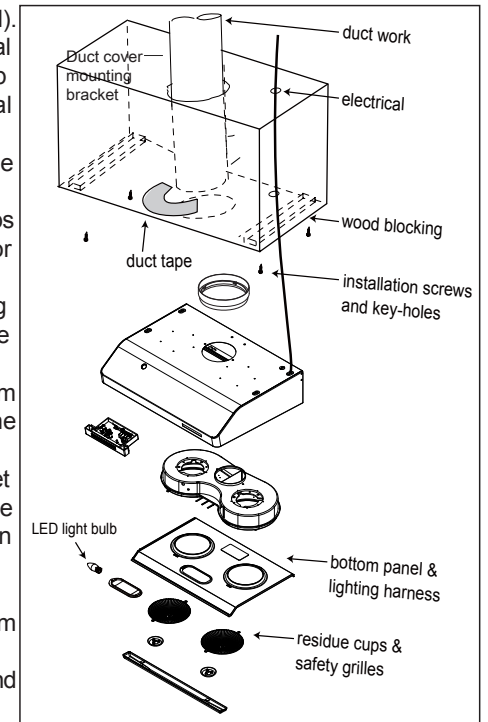

Fig 1
1. Surrounding Environment (Fig.1)